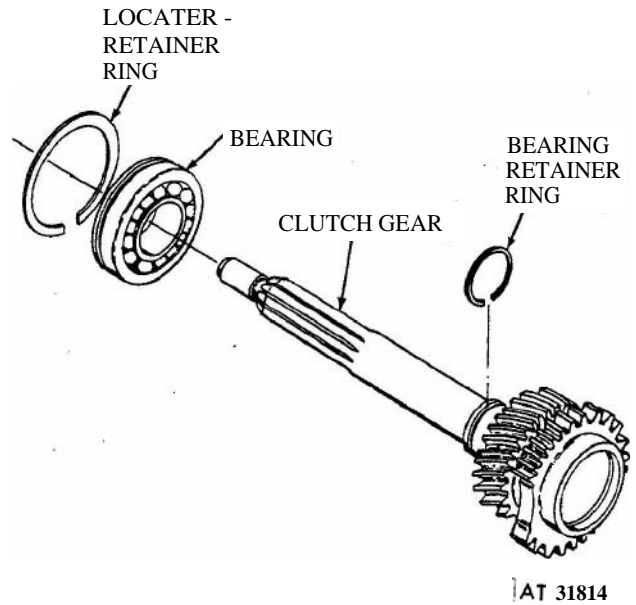

Figure 3-18. Clutch gear assembly, exploded view.
(23) Remove bearing retainer ring (fig 3-18) securing bearing on shaft of clutch gear.